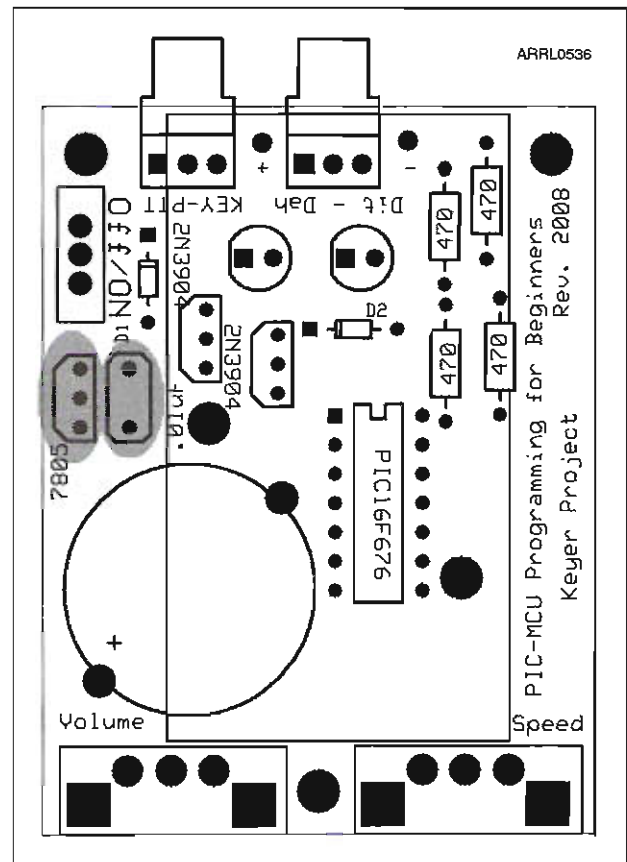

Figure C-3
b. Locate the capacitor. It is marked with 103 on the side of the component. This capacitor can be installed in either direction. Locate the component outline on the circuit board and install the capacitor with the bottom of the component flush with the circuit board surface. Solder and clip the excess leads. See **Figure C-3**.